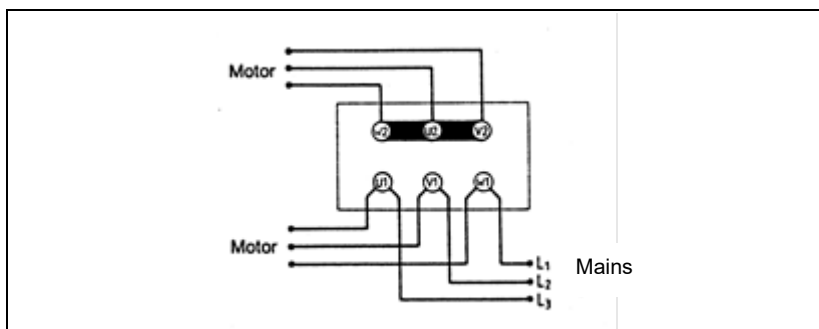
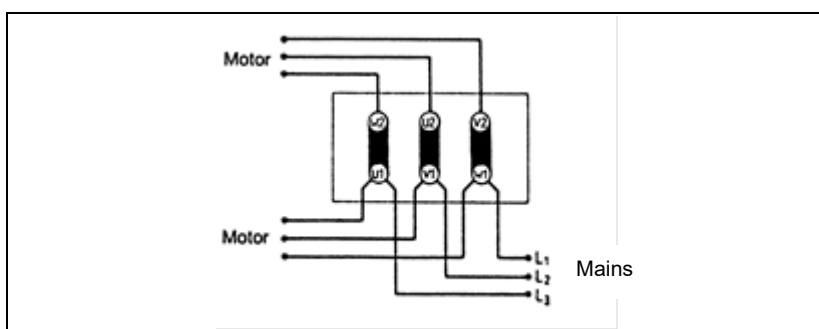

Fig. 9: Y-Connection (high voltage)
Fig. 10: Δ-connection (low voltage)
5. Connection f pumps with 3~ motor according to Fig. 9 or Fig. 10.